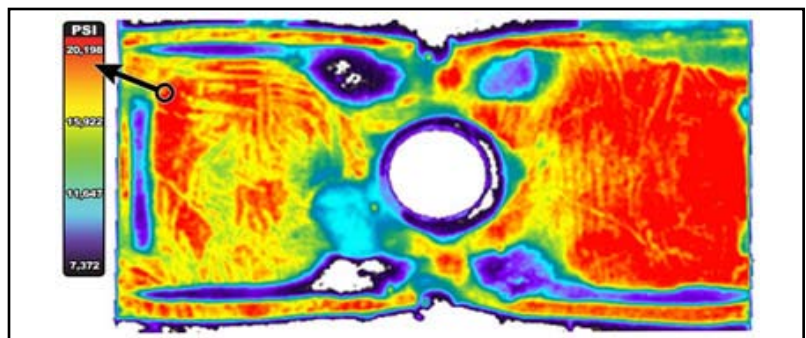

Figure 3
•As shown in **Figure 3**, the film al-